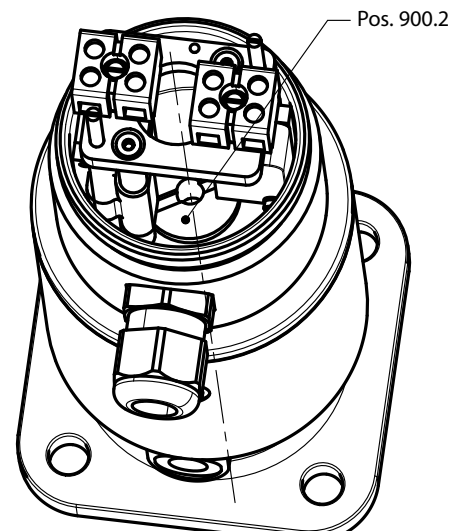

Figure 16: Fastening of actual-position feedback unit
6. Apply one drop of Loctite 243 to the thread of the fastening screw [900.2] of the limit switch box. Fasten it to the actuator and tighten it with a screwdriver (Fig. 16).